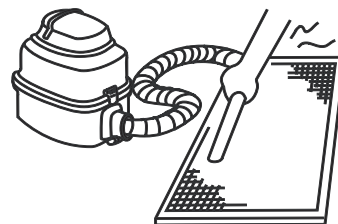

Figure 12.3
- The air intake side should face up when using a vacuum cleaner. (Refer to Figure 12.3)